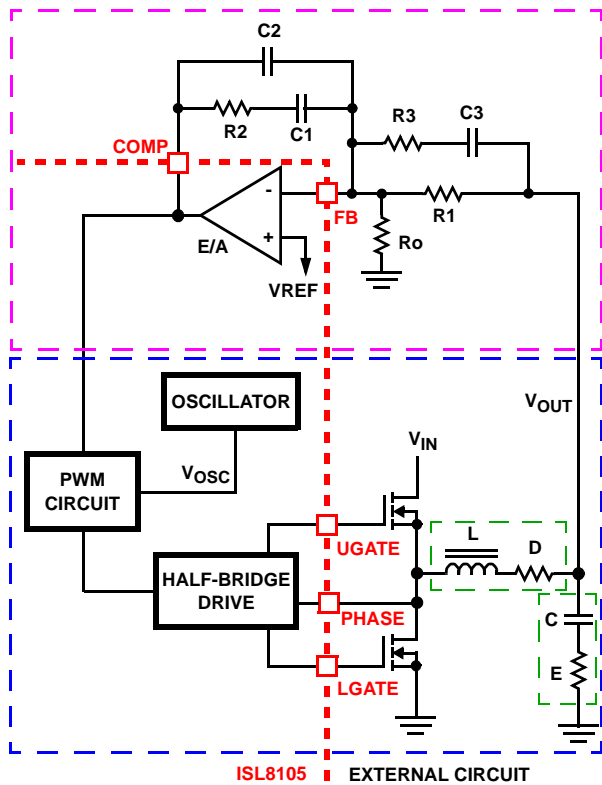

FIGURE 9. VOLTAGE-MODE BUCK CONVERTER COMPENSATION DESIGN
This section highlights the design consideration for a voltage-mode controller requiring external compensation. To address a broad range of applications, a type-3 feedback network is recommended, as shown in the top part of Figure 9.
Figure 9 also highlights the voltage-mode control loop for a synchronous-rectified buck converter, applicable to the ISL8105 circuit. The output voltage (V_{OUT}) is regulated to the reference voltage, V_{REF} . The error amplifier output (COMP pin voltage) is compared with the oscillator (OSC) modified sawtooth wave to provide a pulse-width modulated wave with an amplitude of V_{IN} at the PHASE node. The PWM wave is smoothed by the output filter (L and C). The output filter capacitor bank's equivalent series resistance is represented by the series resistor E.
between the closed loop phase at F_{0dB} and 180°. The equations that follow relate the compensation network's poles, zeros and gain to the components (R1, R2, R3, C1, C2, and C3) in Figure 9. Use the following guidelines for locating the poles and zeros of the compensation network:
4. Select a value for R1 (1kΩ to 5kΩ, typically). Calculate value for R2 for desired converter bandwidth (F_0). If setting the output voltage via an offset resistor connected to the FB pin, R_o in Figure 9, the design procedure can be followed as presented.